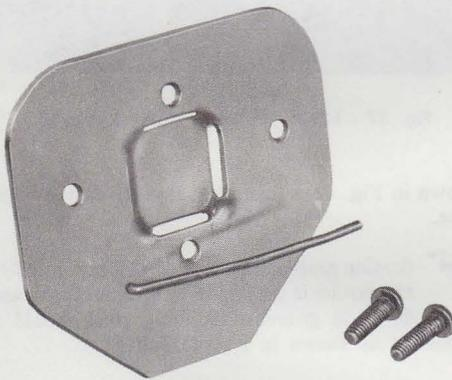

Fig. 32—114A Bracket
- 114A bracket (Fig. 32)—use with 123- and 128-type protectors for indoor or outdoor locations.